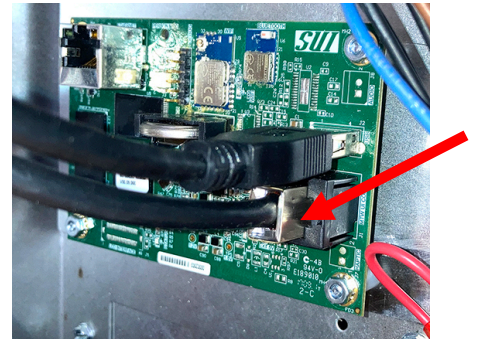

Figure 43
54. Attach the **NEW** RJ45 harness to the KCCM board shown (see Figure 43).